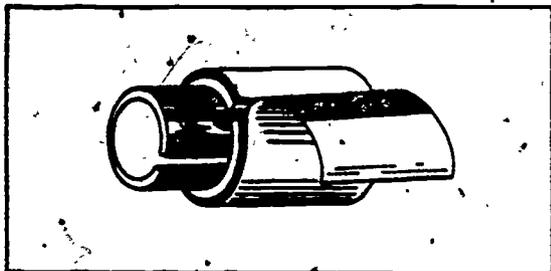

Figure 4-8. Antisweat insulation.
h. Antisweat. Antisweat insulation, shown in figure 4-8, is designed for use on cold water pipes. It keeps the water colder in the pipes than most types of insulation, and if properly installed, it prevents